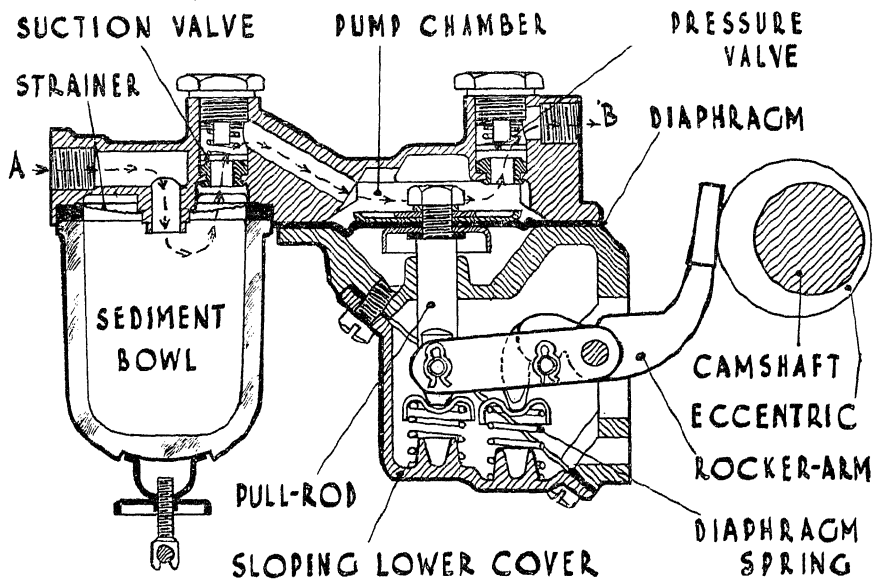

Fig. 2. SECTIONAL DIAGRAM OF AN EARLY A.C. FUEL PUMP, SERIES B
*Series B.*—(Used since 1931 on cars of about 10 h.p. and upwards.) This model—illustrated in Fig. 2—also has a glass filter bowl, but the lower cover of the body is of a sloping pattern, and the rocker arm bears on a pin fitted in the linkage.